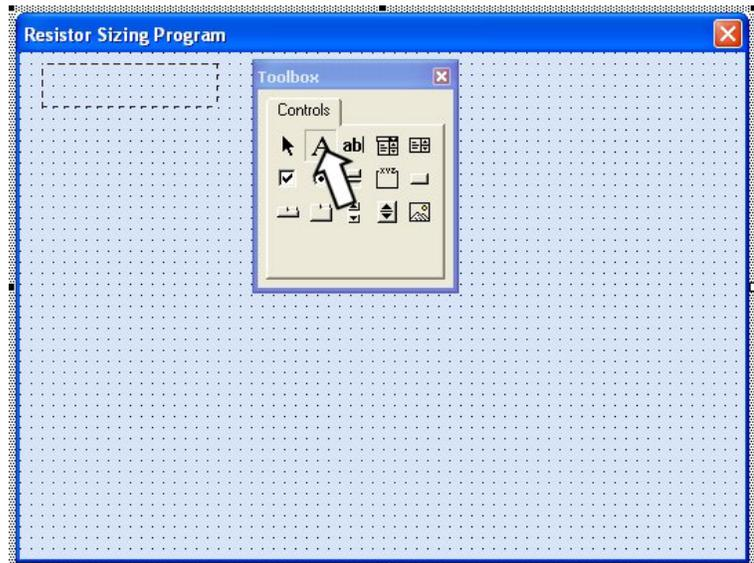

Figure A.9 – Placing a Label on the Form
A good form is easy to figure out by the user, so when we are attempting to provide information on the window that will run in AutoCAD; we add labels to textboxes to explain our intent. Press the Label (A) button on the Control Toolbar to add a label. To size the label area, click on the upper left area of the form and hold down on the left mouse button, draw the dotted label box as shown in Figure A.9.